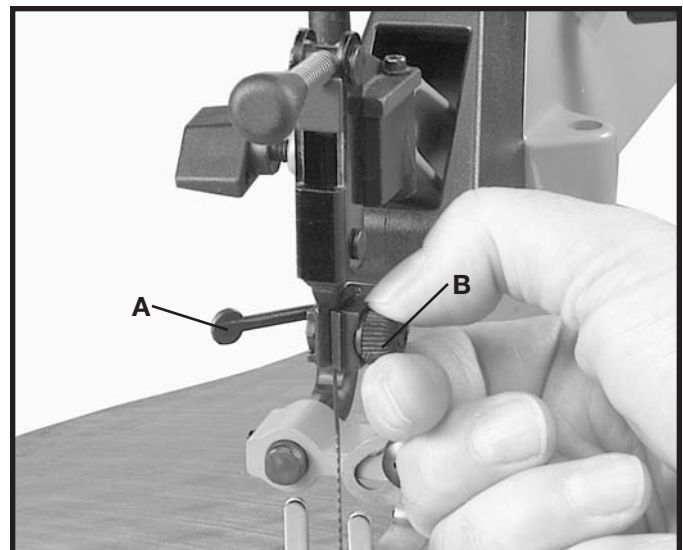
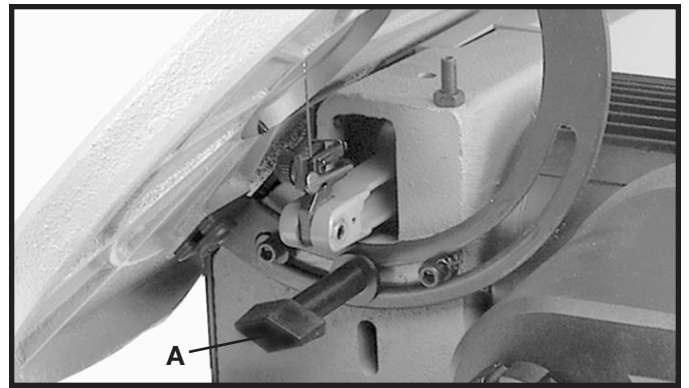
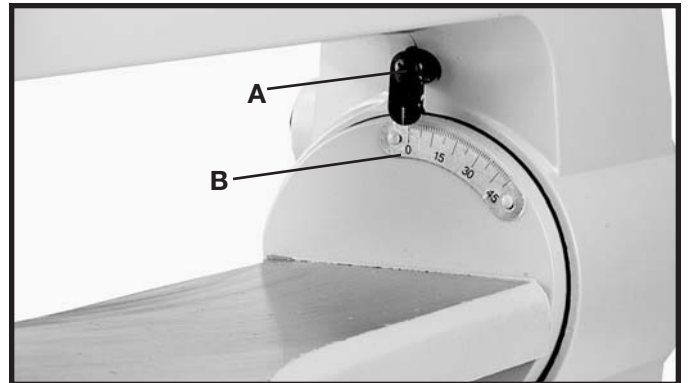
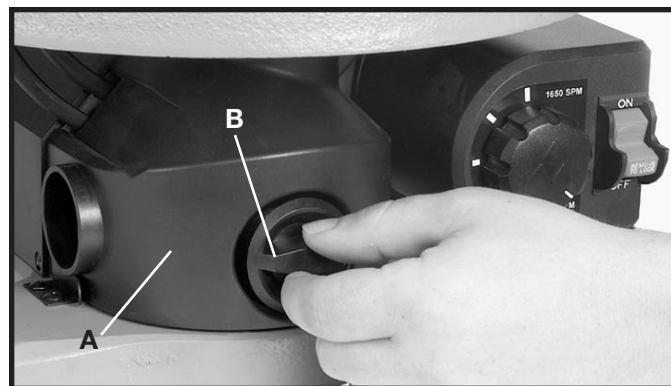

Fig. 9
Fig. 10
Fig. 11
Fig. 24
1. Move the blade locking lever (A) Fig. 9, to the rear (open) position, as shown.
2. Turn chuck clamping knob (B) Fig. 9, clockwise to tighten and counterclockwise to loosen the clamping action of the blade holder chuck. Very little movement of knob (B) will be necessary. **NOTE:** Only the upper chuck is shown. Clamping action of the lower chuck is adjusted in the same manner and can be accessed by removing dust cup shown in Fig. 24.
The table on your scroll saw can be tilted 45° to the left for bevel cutting operations by removing the dust cup as shown in Fig. 24 and loosening table lock knob (A) Fig. 10, tilt the table to the desired angle indicated on degree scale (B) Fig. 11 and tighten lock handle (A) Fig. 10.
1. Loosen table lock knob as shown in Fig. 10 and move the table all the way to the right until angle indicator shown in Fig. 11 is on "0".
Note: After adjusting table, reposition the pointer (B) Fig. 11 to "0" degrees. Loosen the screw (A) Fig. 11 and adjust pointer (B) to "0" degree mark and retighten screw (A).
3. Remove the dust collection cup (A) by rotating knob (B) 90° as shown in Fig. 24. Slide dust cup out of the guides (C) by pulling it toward the front. **NOTE: DO NOT OPERATE THE UNIT WITH THE DUST CUP REMOVED.**